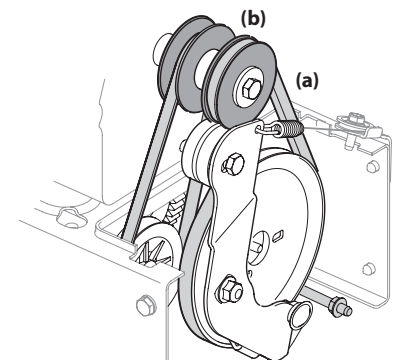

Figure 4-21
- Slip the front auger belt (a) off of the engine pulley (b), pushing it forward and rolling in off of the engine pulley (b). See Figure 4-21.